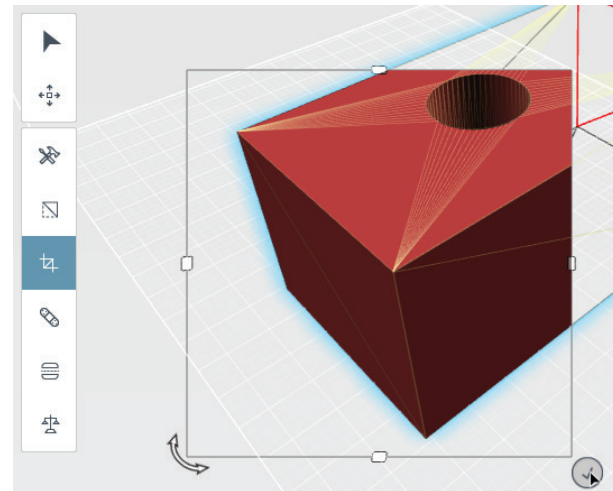

Figure-51. Region created for cropping
- Click on the **Crop** button  to isolate selected region and delete rest of the model for printing; refer to Figure-51. You can modify the selection by using rotation and translation handles displayed on the box. Click on the round **OK** button at the bottom of selection box to applying cropping. Press **ESC** to exit cropping mode.